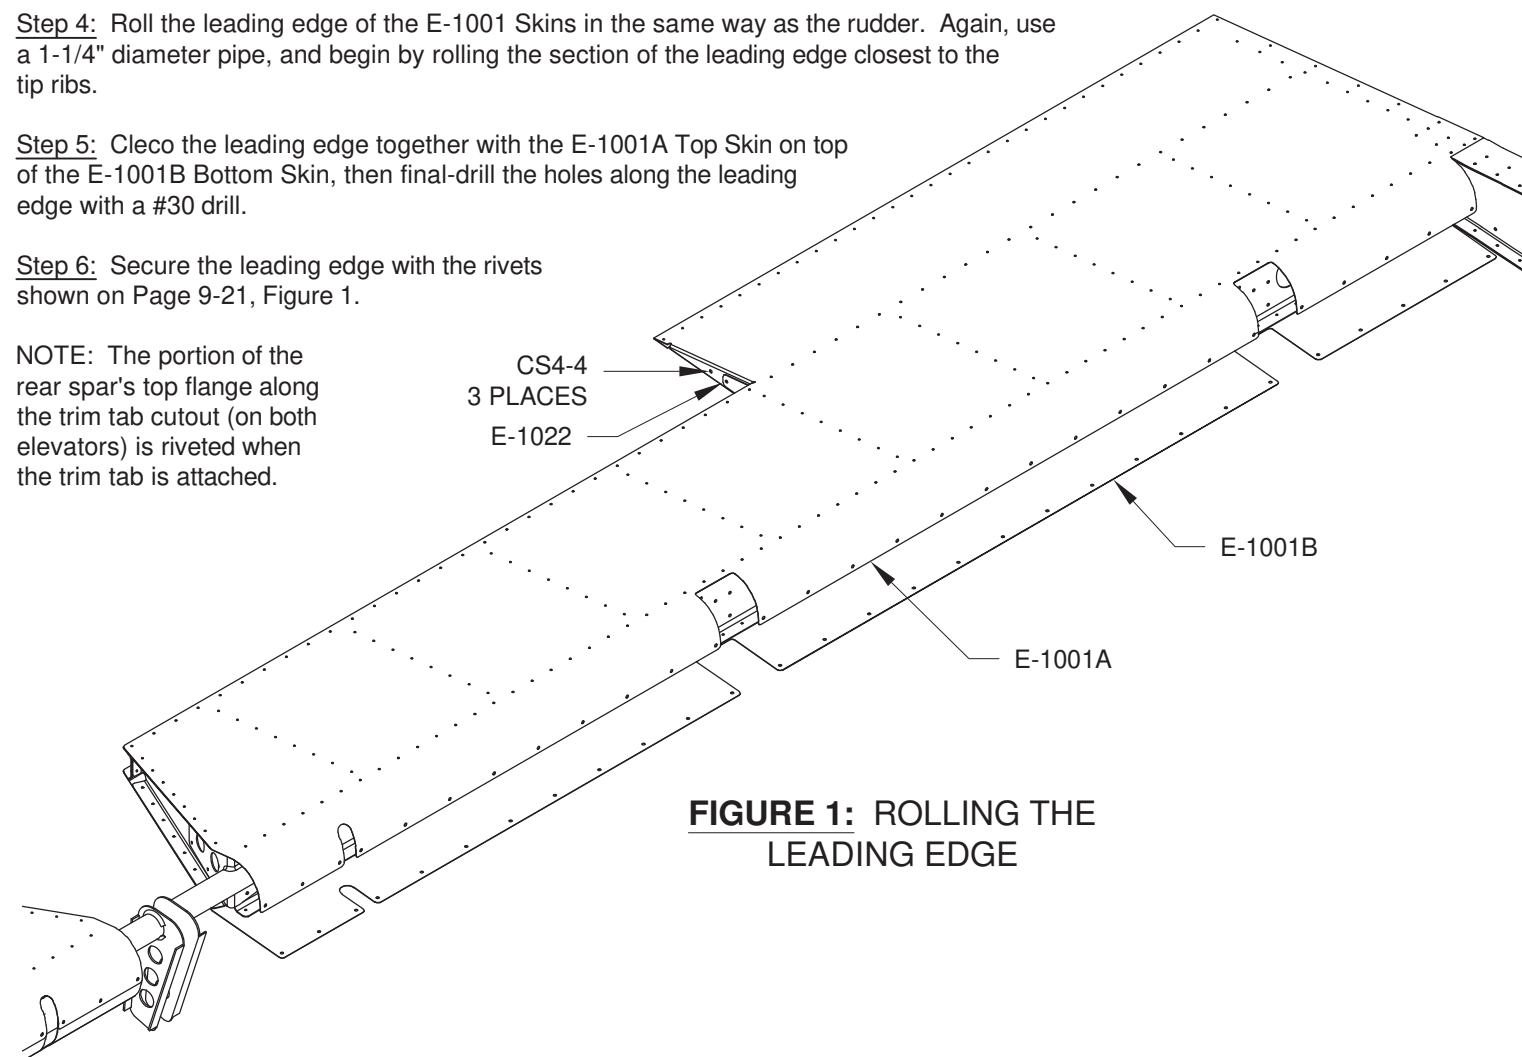

FIGURE 1: ROLLING THE LEADING EDGE
Step 2: Rivet the E-1022 Shear Clip to the close out tabs in the E-1001 Skins using the rivets shown in Figure 1. Install a blind rivet in the remaining hole in the close out tabs aft of the shear clip.
Step 6: Secure the leading edge with the rivets shown on Page 9-21, Figure 1.